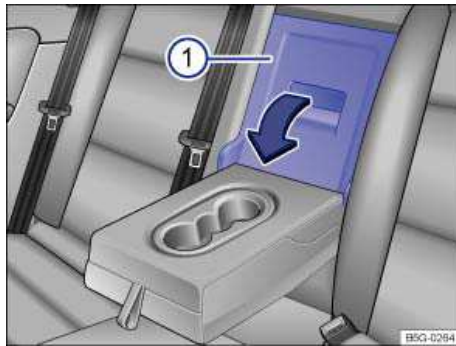

Fig. 90 In the rear seat backrest: Opening the luggage compartment pass-through.
- Pull the release lever ⇒ fig. 90 \(1\) in the direction of the arrow and fold the pass-through cover all the way forward.